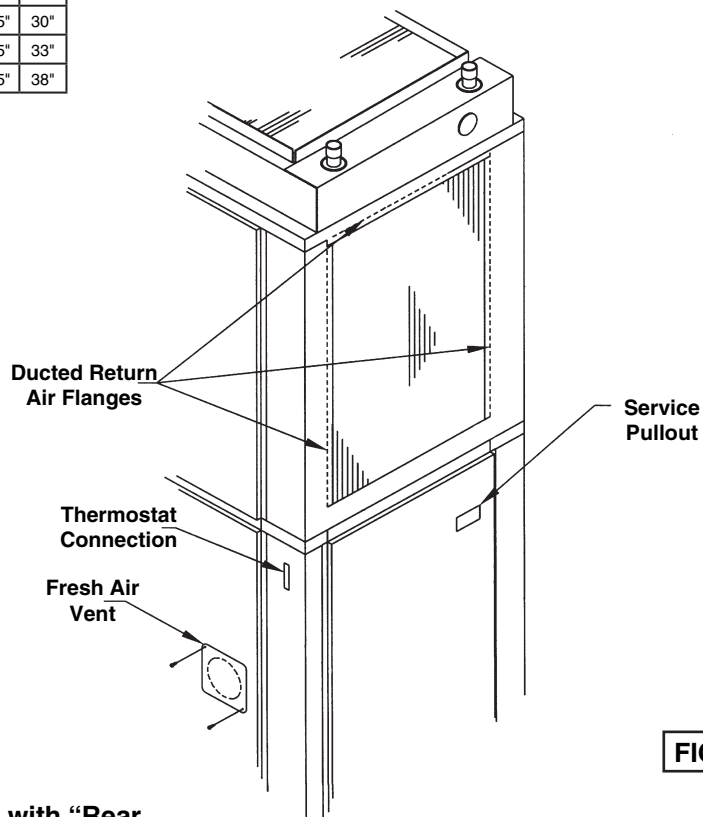

FIGURE 6
9. **New "Flush Style" Architectural Grille** – (See Figure 6) This new grille is an attractive extruded aluminum architectural grille that attaches to the outside face of the wall sleeve. The blades of this unique grille recess into the wall sleeve for a neat, "flush" appearance. Grilles install from the inside of the wall sleeve. Do not install the **SPXB-HW** unit into the sleeve before installing the grille.